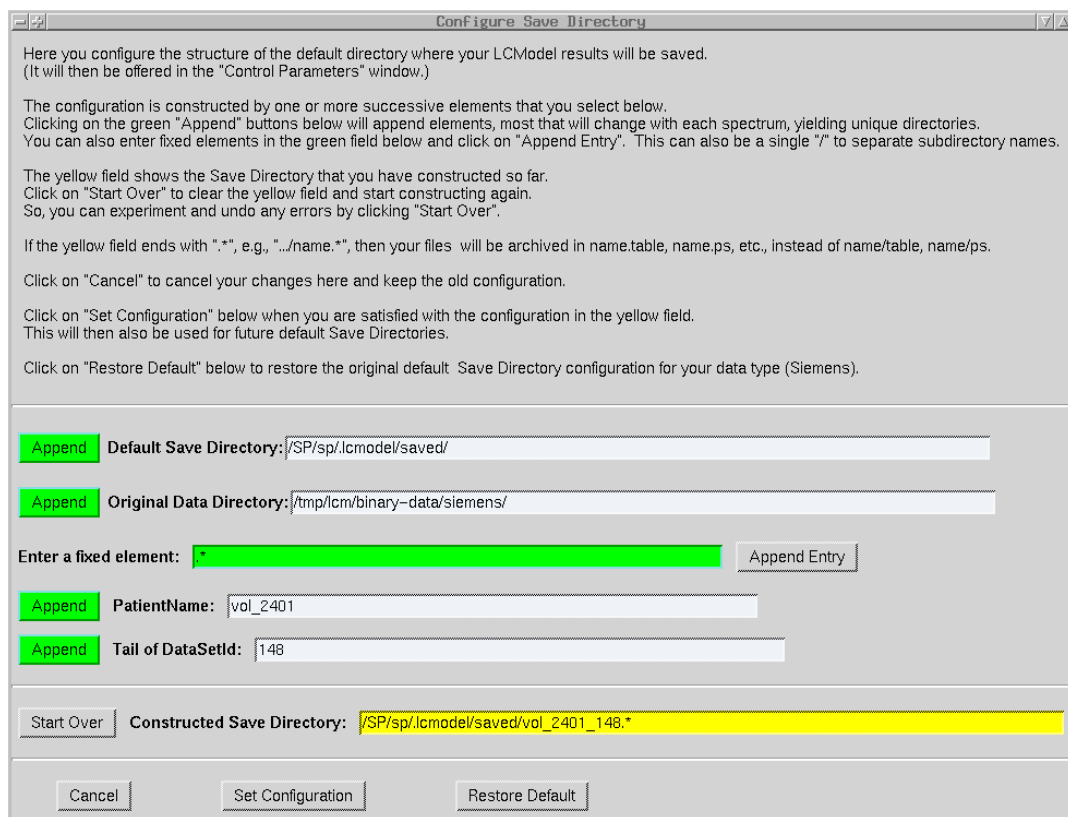

Figure 7.5: The window for permanently reconfiguring the structure of (Siemens) Archive Directories.
Normally, the .PS file is a file called **ps** in the Archive Directory. The following Siemens example using Fig 7.5 shows how to archive them as extensions to filenames.
- (1) Click the green “Append” button next to “Default Save Directory”.
- (2) Click the green “Append” button next to “PatientName:”
- (3) Enter _ (underscore) in the green field next to “Enter a fixed element”, and then click the “Append Entry” button to the right.
- (4) Click the green “Append” button next to “Tail of Data SetId:”.
- (5) In the green field next to “Enter a fixed element”, delete the underscore and enter .* (period then asterisk), and then click the “Append Entry” button to the right. This is the stage shown in Fig 7.5.
- (6) If you are satisfied with the structure shown in the field next to “Constructed Save Directory:”, then click the “Set Configuration” button.